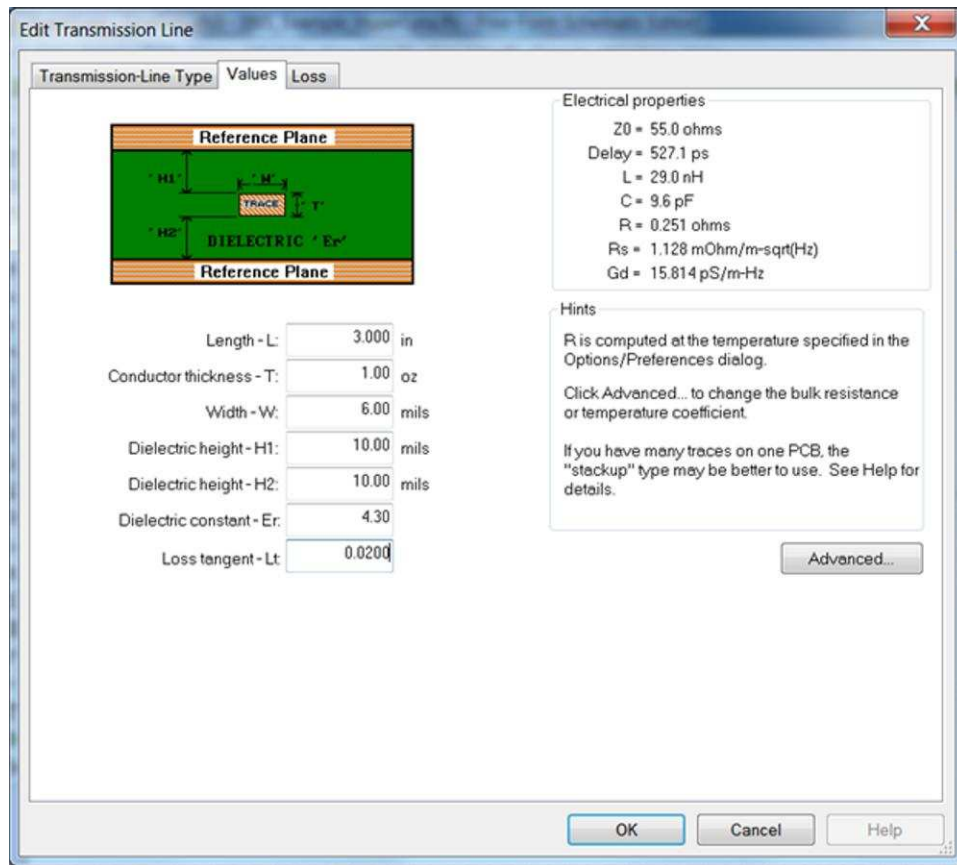

Figure 8. Stripline Configuration
13. Navigate to the Values tab and configure the transmission line as shown in Figure 8, then click OK.